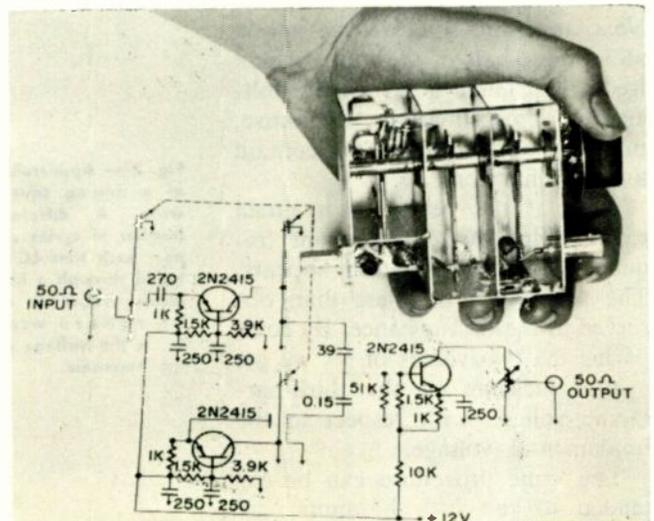

Fig. 1 — A simple ringing circuit for measuring the relative voltages of harmonics in a waveform.
■ A square wave, like most complex waves, has many harmonics which decrease in voltage as their frequency increases. The relative voltages of harmonics in a square wave are easily measured with the use of an LC ringing circuit, as shown in Fig. 1.